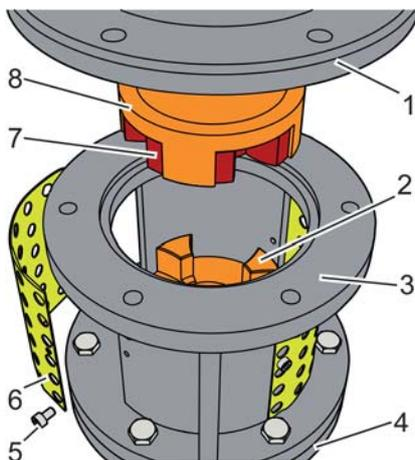

Fig. 37: Positioning the gear
3. → Unscrew the attachment bolts (Fig. 37/5) of the covers (Fig. 37/6) and place to the side.
4. →  When positioning the coupling halves, make sure that the elastomeric coupling element (Fig. 37/7) is correctly seated between the claws.
Carefully place the gear (Fig. 37/1) with the coupling half (Fig. 37/8), aligned with the coupling half (Fig. 37/2) in the drive lantern (Fig. 37/3) and the boreholes, onto the drive lantern.
5. → Correctly attach the covers (Fig. 37/6) with the attachment bolts (Fig. 37/5) on the drive lantern.